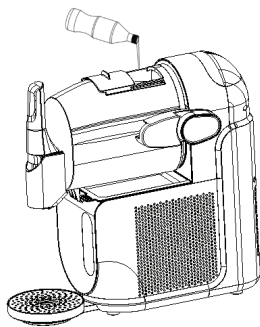

Figure 3-3
1. Check the charging barrel before pouring the material into the charging barrel to ensure that the charging barrel is installed in place. (see the „cleaning“ part for the disassembly and assembly steps, please install the drip tray and handle before using it for the first time), open the top cover of the charging barrel, and then slowly pour the material into the charging barrel (as shown in Figure 3-3). Please note that the maximum production weight for ice cream is 1236g, and the maximum production weight for slushy is 1890g.